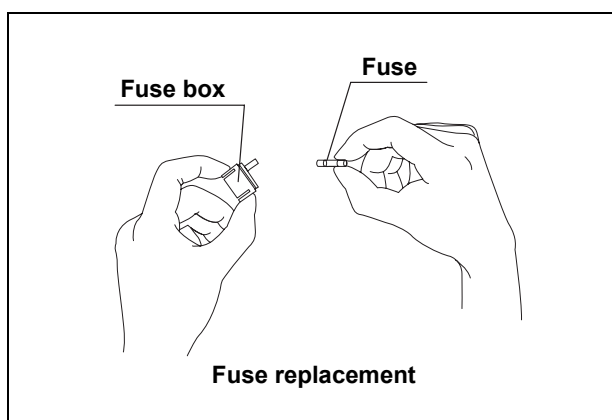

Figure 4.4
5. Even if only one fuse has blown, always replace both of them (see Figure 4.4).